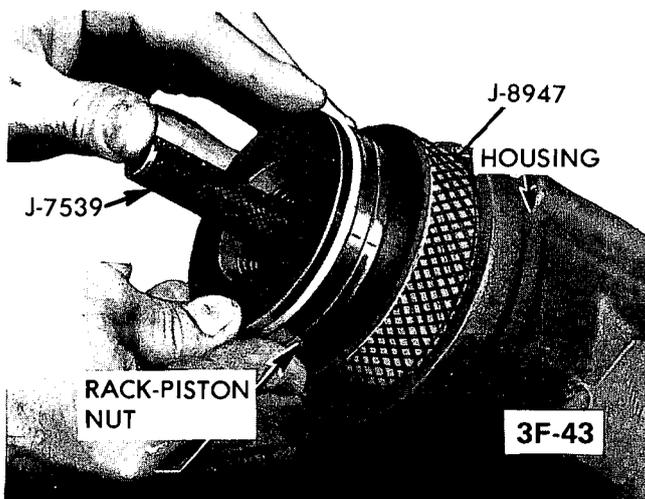

Figure 3F-29 - Installing Rack Piston
c. With Ball Retainer J-7539 in place in the rack-piston, push the rack-piston (with teeth toward pitman shaft opening), into the housing until Tool J-7539 contacts the center of worm. Figure 3F-29.